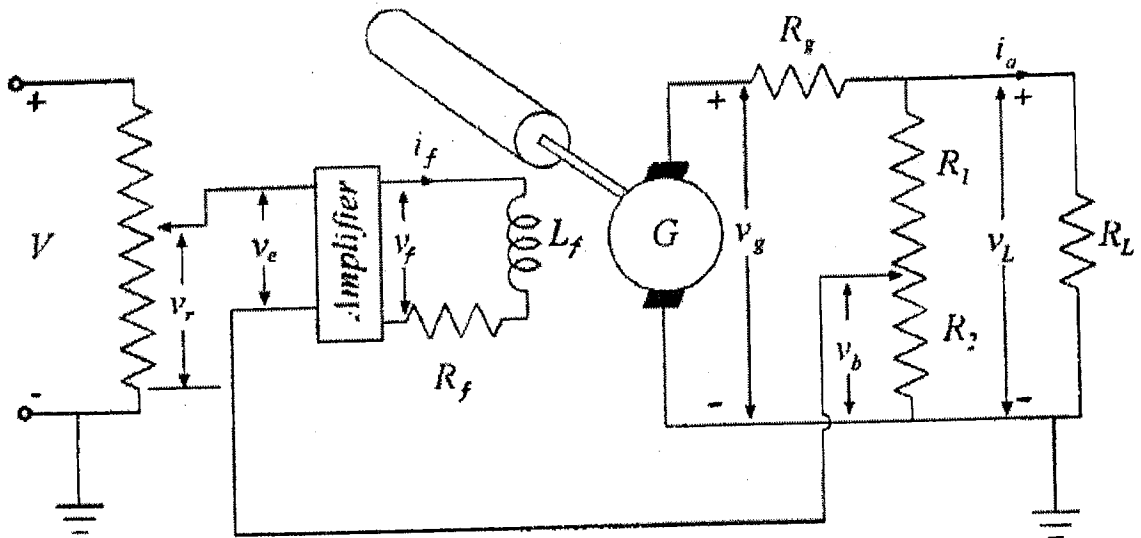

Fig Q3
3. A voltage control system is given in Fig Q3. This system is designed so that the load voltage v_L remains constant despite any changes in the load R_L .